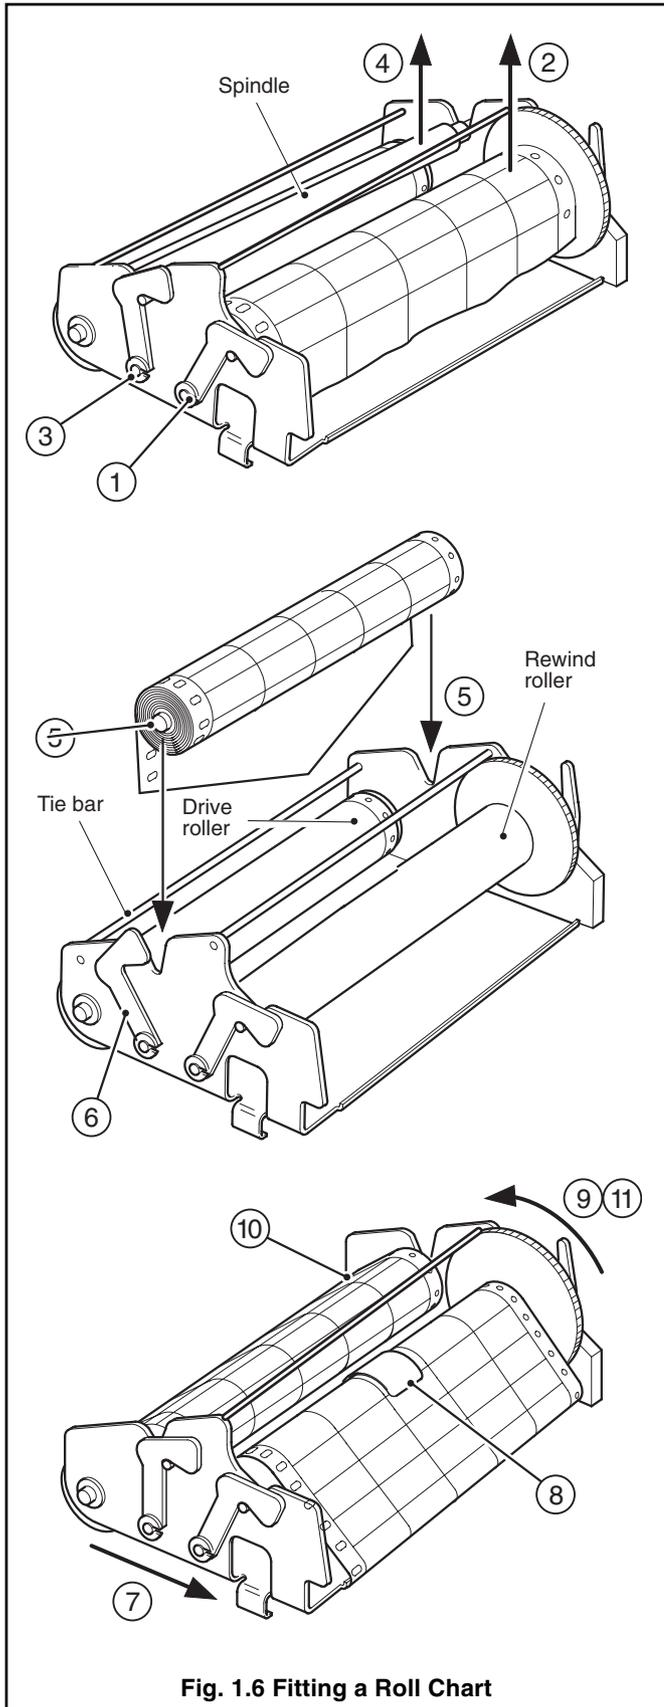

Fig. 1.6 Fitting a Roll Chart
1.5.3 Fitting a Roll Chart – Fig. 1.6
Referring to Fig. 1.6: